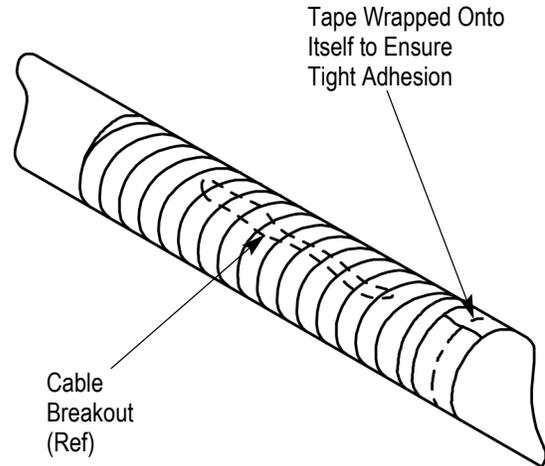

Figure 4
4. Stretch tape approximately 2/3 its normal width; then wrap it completely around the end of the insulated area. The tape must be wrapped onto itself to seal the end of the insulation and to ensure a tight adhesion at the end of the tape. See Figure 4.